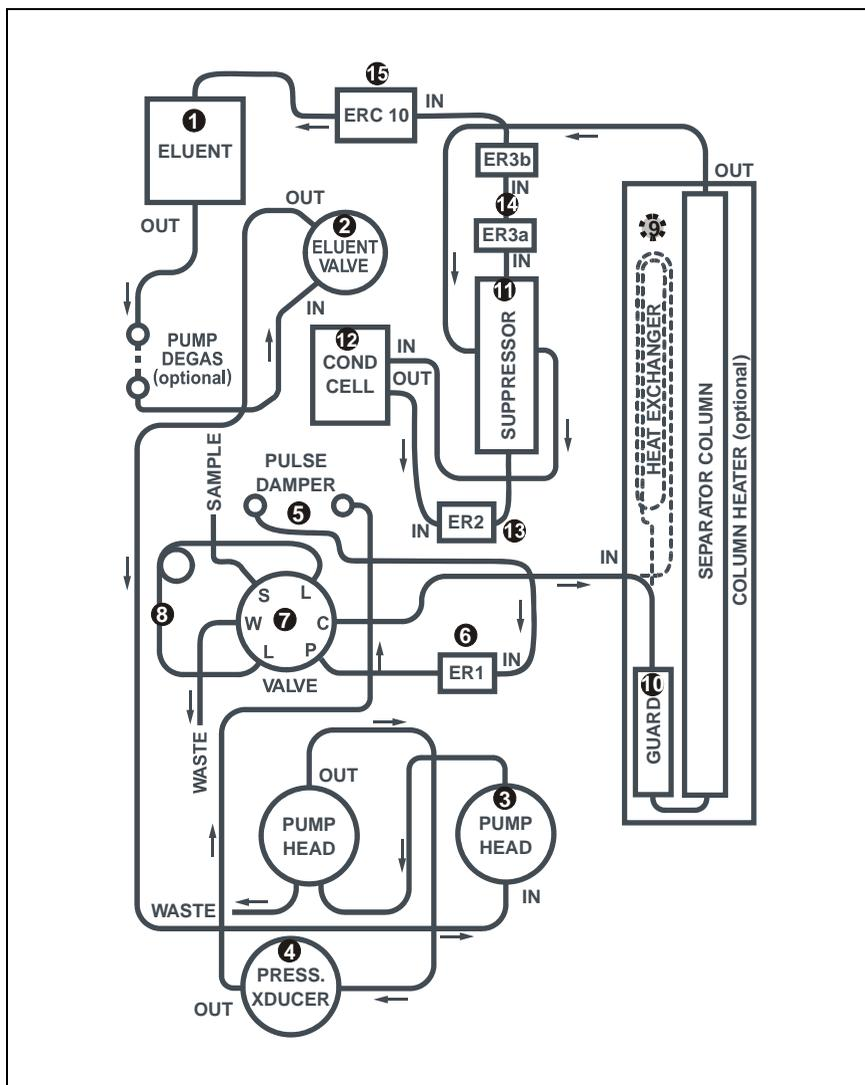

Figure 2-8. Dionex ICS-1100 Flow Schematic: RFIC-ER Mode
- Figure 2-8 illustrates the liquid flow path through components when operating in the RFIC-ER mode.